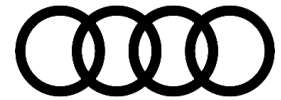

Figure 1. Front most bolt on subframe to be loosened.
2. Begin your diagnosis by loosening the front most bolt on the subframe mounting as indicated in Figure 1. The bolt only needs to be loosened several turns, but not removed.